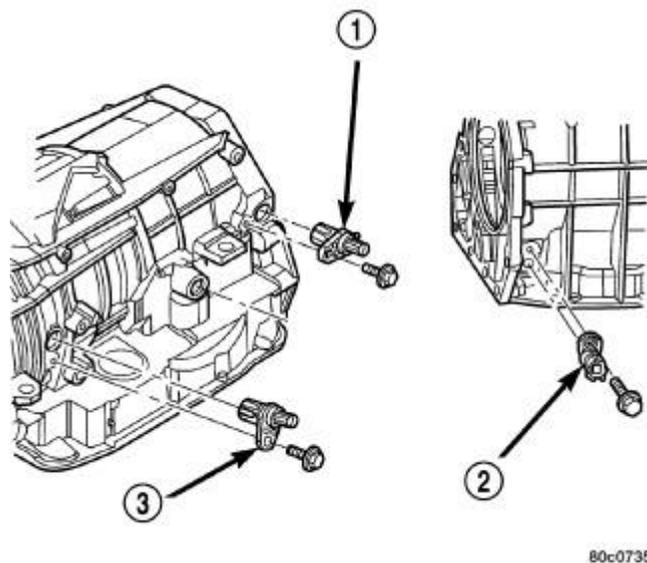

Fig. 43: Input, Output, & Line Pressure Sensors
5. Remove the input (3), output (1), and line pressure sensors (2) from the transmission case. Refer to **Fig. 43**.